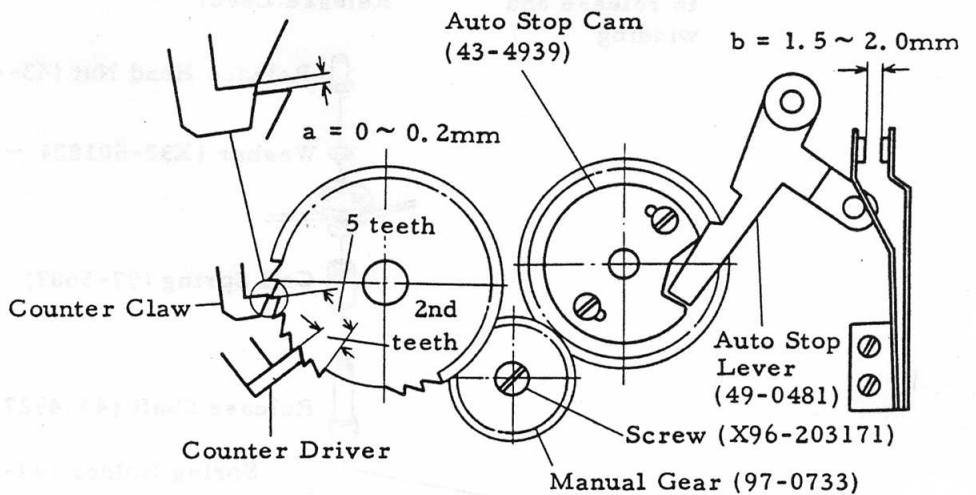

Fig. 19
- 1) Engage Auto Stop Lever in the groove of Auto Stop Cam. (Fig. 19)
- 2) Engage Counter Driver with the 2nd tooth or 3rd tooth from the flat part of Ratchet. (Fig. 19)
When Counter Claw engages with 5th tooth (or 6th tooth) from the flat part of Ratchet, the Auto Stop Lever drops in the groove of the Auto Stop Cam. (Fig. 19)
See Fig. 19.